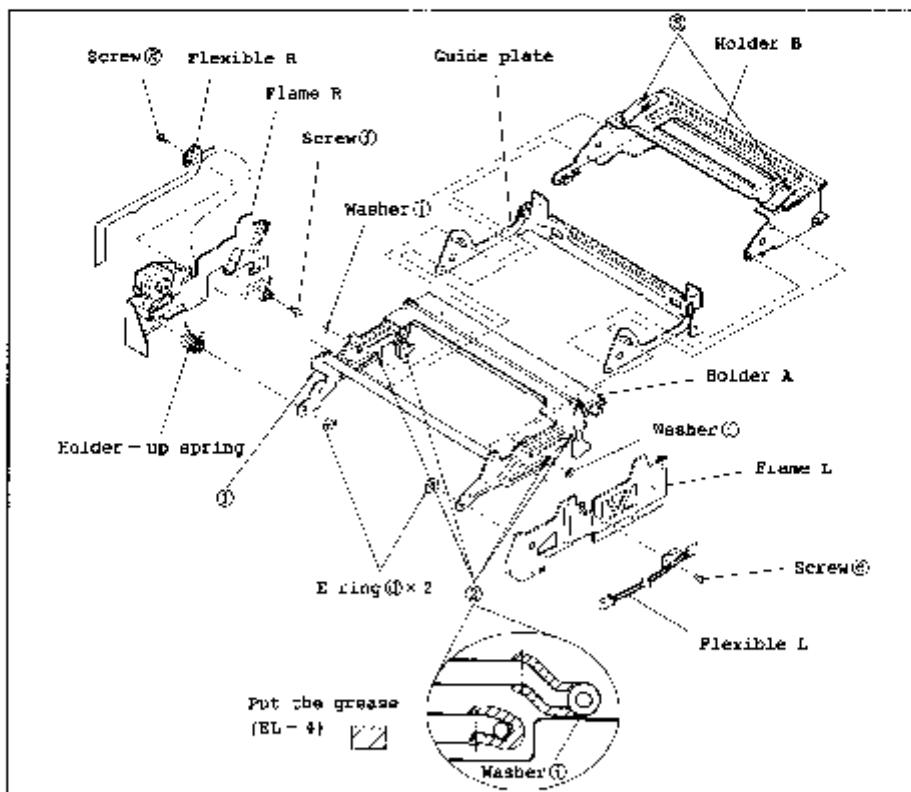

Fig. III-3-C
2. When replacing the holder B, apply the Grease EL-4 on the positions ③ indicated by arrows. (Fig. III-3-C)